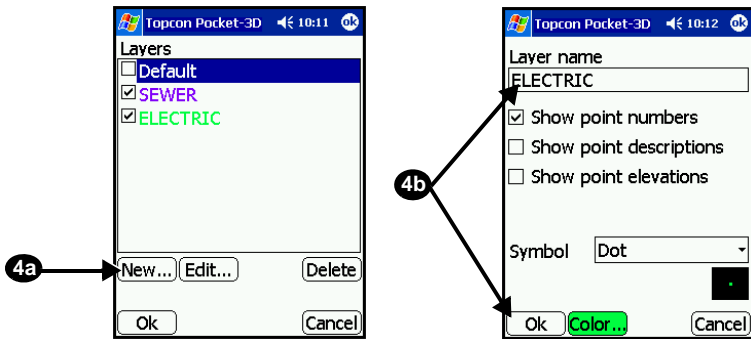

Figure B-14. Add Layers to Points File
4. Press **New**. Enter a name for the layer and the layer's parameters. Press **Ok** (Figure B-14 on page B-11).